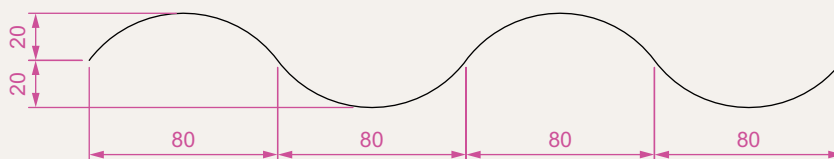
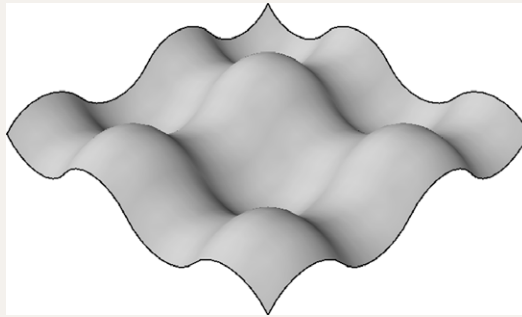

Fig. 17.47 Exercise 9 – one of the polylines from which the surface was obtained
Fig. 17.48 Exercise 9
9. Fig. 17.47 shows a polyline for each of the 4 objects from which the surface shown in Fig. 17.48 was obtained. Construct the surface and shade in **Shades of Gray**.